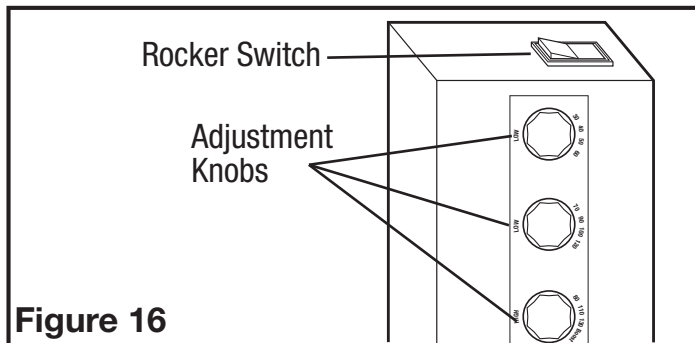

Figure 16
4. **VARIABLE SPEED:** First decide if you will require more or less than 65 CFM of ventilation on the low speed setting. If it is less than 65 CFM place the Low CFM Range rocker switch on the 30-60 range. If it is more, place the low CFM range rocker switch on the 70-120 range. Once you have decided on the minimum required airflow, the fans low speed CFM level can be adjusted by using either the lower adjustment knob (30-60 CFM) or the middle adjustment knob (70-120 CFM). The desired high speed CFM can be adjusted by using the upper most adjustment knob (**Figure 16**).